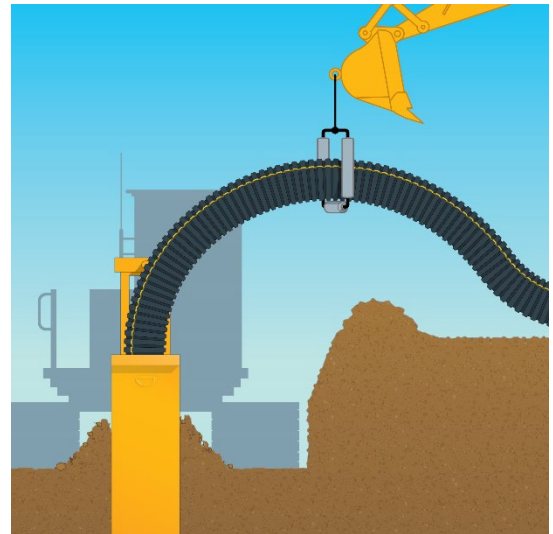

Figure 4: Goldflex Support Guide
- To aid with installation, a support should be used to help guide the pipe from the ground into the boot and avoid obstacles (Figure 4). If a guide is not used, someone should walk with the tile plow to support the pipe and form a consistent arch into the boot.